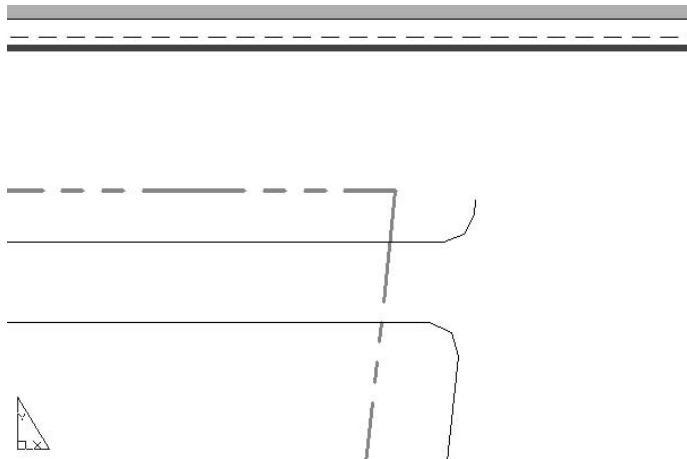

FIGURE 14.15: Zooming in to check the lineweights
4. While in Paper Space, zoom in to a view of the place where the driveway meets the property line. Include the top borderline in the view to see the contrast in lineweights (see Figure 14.15). The borderline has a thickness because it is a polyline assigned a width of $\frac{1}{16}$ ", or 0.0625.